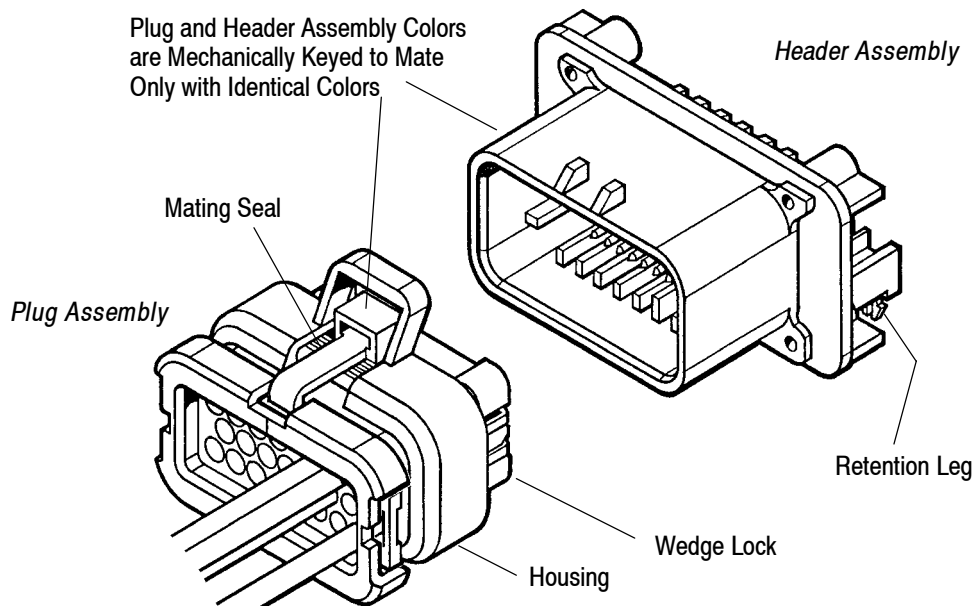

Figure 1
When corresponding with TE Connectivity (TE) Representatives, use the terminology provided in this specification to facilitate your inquiry for information. Basic terms and features of the plug connector and header assemblies are provided in Figure 1.